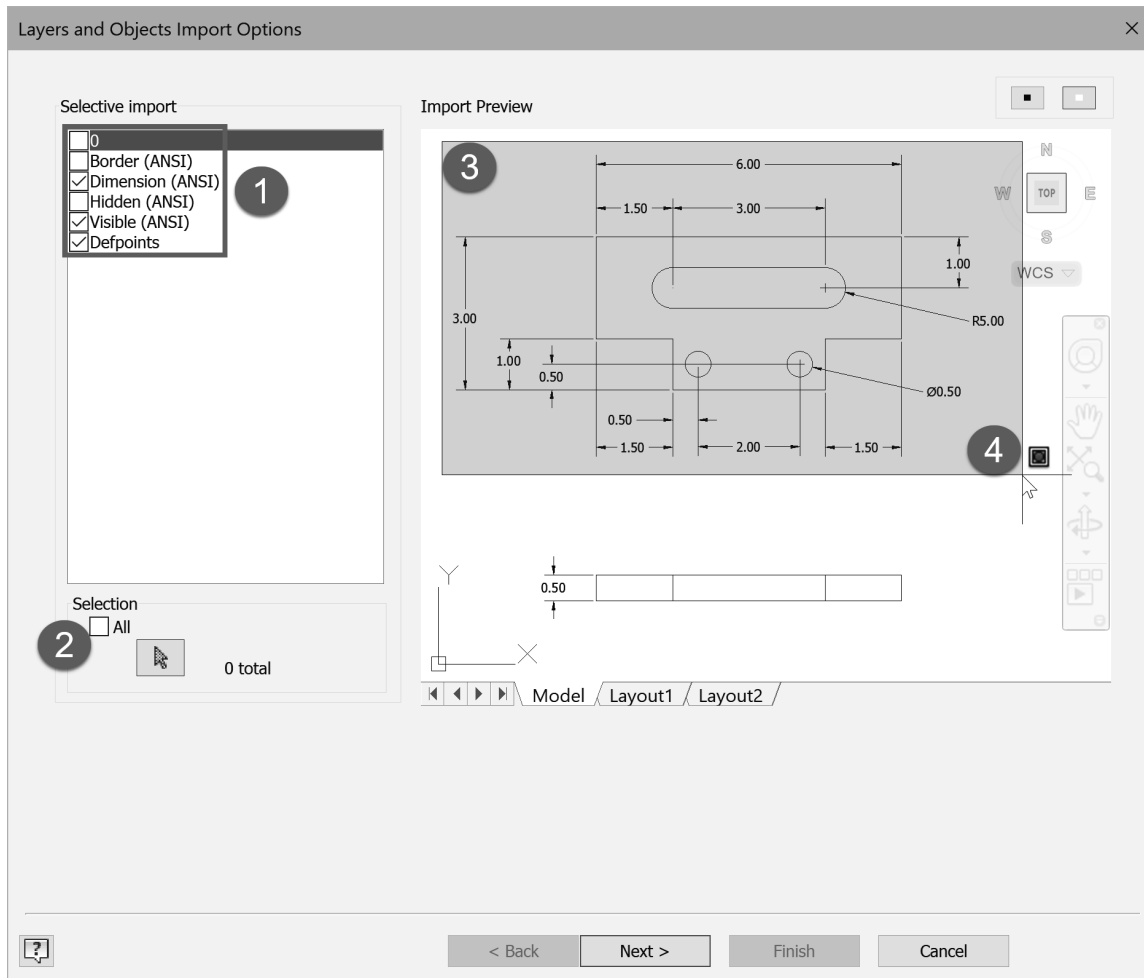

Figure 2.91
- 5 From the Layers and Objects Import Options dialog box *uncheck* the layers that are not needed. In the upper left corner of the dialog box *uncheck* layers 0, Border (ANSI) and Hidden (ANSI) as shown in Figure 2.91 (1).
- 6 In the Selection area near the bottom left corner of the dialog box uncheck All, labeled (2) in the following image.
- 7 Select the geometry and dimensions to insert, use the window selection—click a point above and to the left of the geometry labeled (3) and then click a point below and to the right of the geometry labeled (4). Note that if you click and drag you can draw an irregular shape around the geometry.